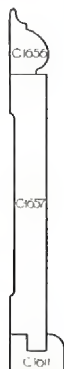

Fig. 9
5. All Curtis casings and baseboards are "backed out" on the inside face as shown in C-1657, Figure 9. This feature has two marked advantages:
The method of fitting the baseboard into the shoe mold shown in Figure 9 is an improvement over the old style of nailing a quarter-round mold to the baseboard. This mold may be nailed in the manner illustrated, either through the front of